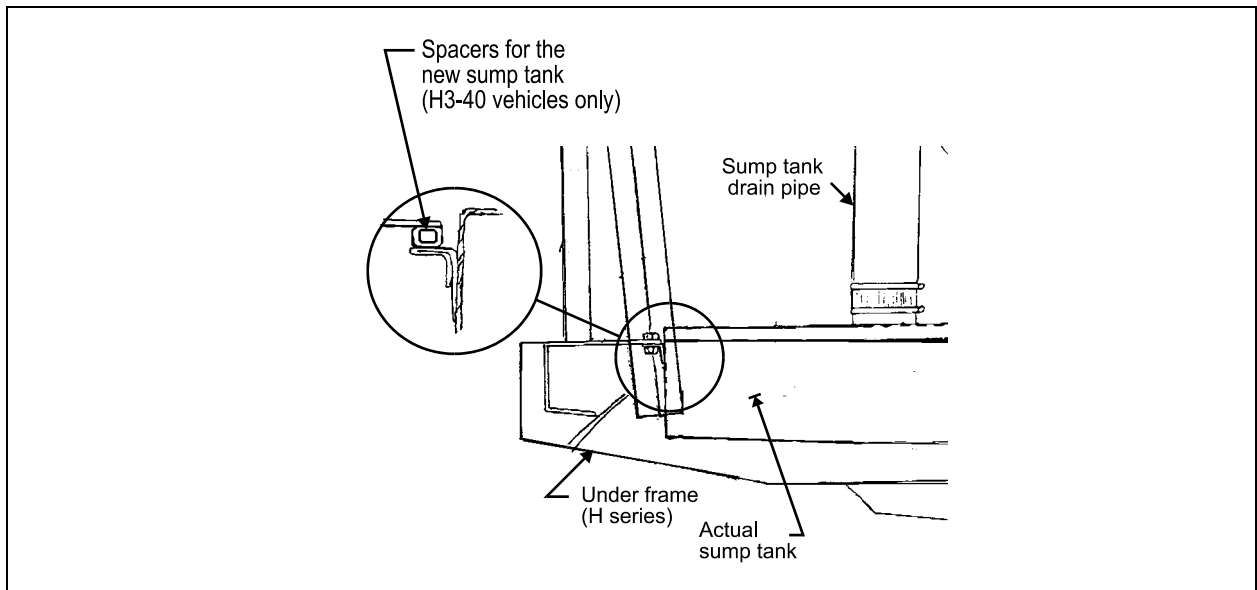

FIGURE 2: R.H. SIDE ENGINE COMPARTMENT
8. Remove the visible part of the sump tank drain pipe (Fig. 2) by taking off the two clamps.
Note: For H3-40 vehicles, spacers (Prévost #404406) must be installed on the rear side of sump tank (Fig. 2).